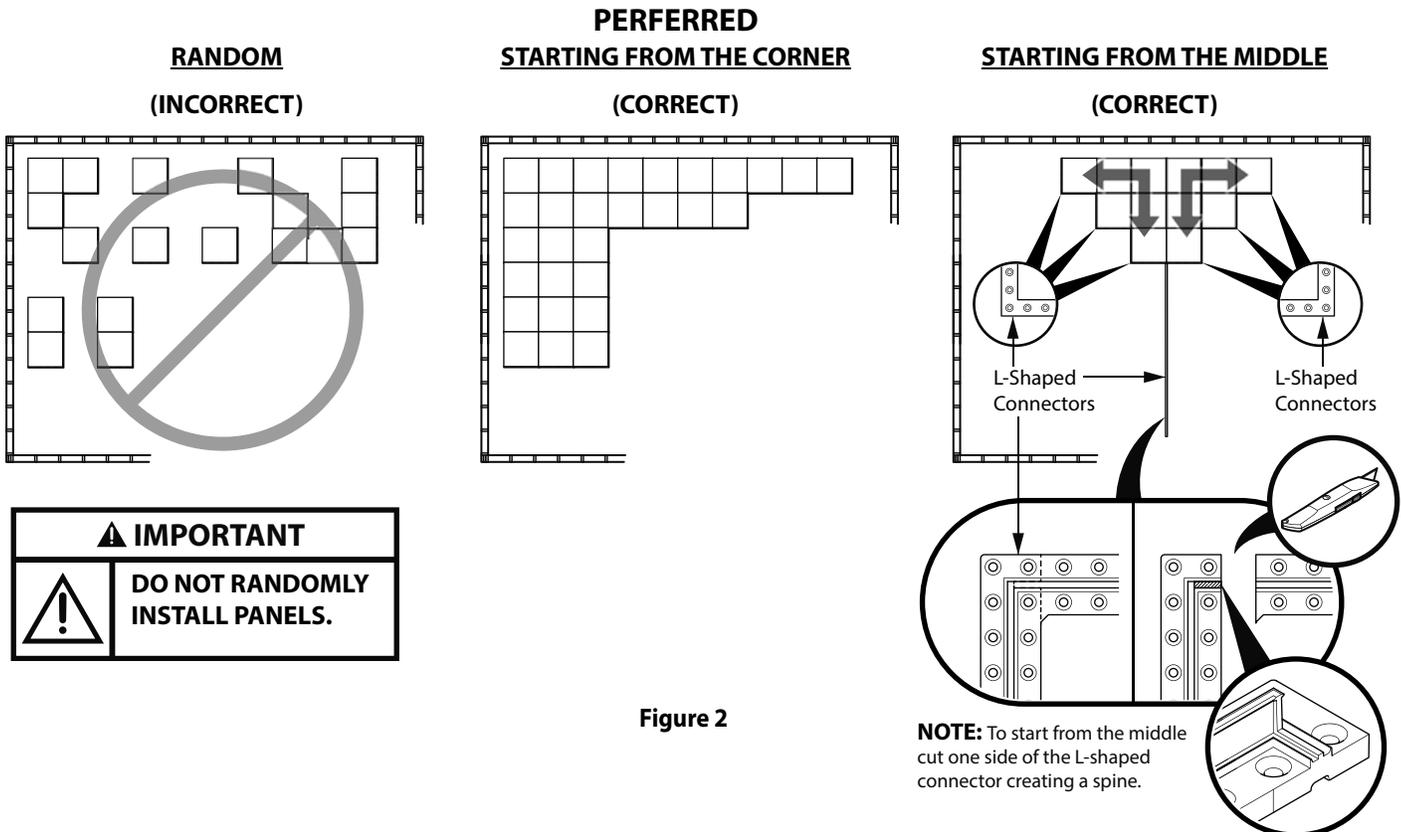

Figure 2
- 2) Starting at the corner (Figure 2) shows a typical starting layout in the corner of a room situated along the longest wall.
- 3) The corner starting point may not be desirable due to design requirements to have the module lines match the column lines, the ceiling grid lines, or if the room has a run of 50 panels or more. Long runs (50 panels or more) should be minimized by locating the start point in the middle of the room (Figure 2). This will halve the growth or shrinkage that may result in the installation if it were started in the corner. A middle start point also allows two installation crews to work away from each other and continue the installation in a progressive manner.